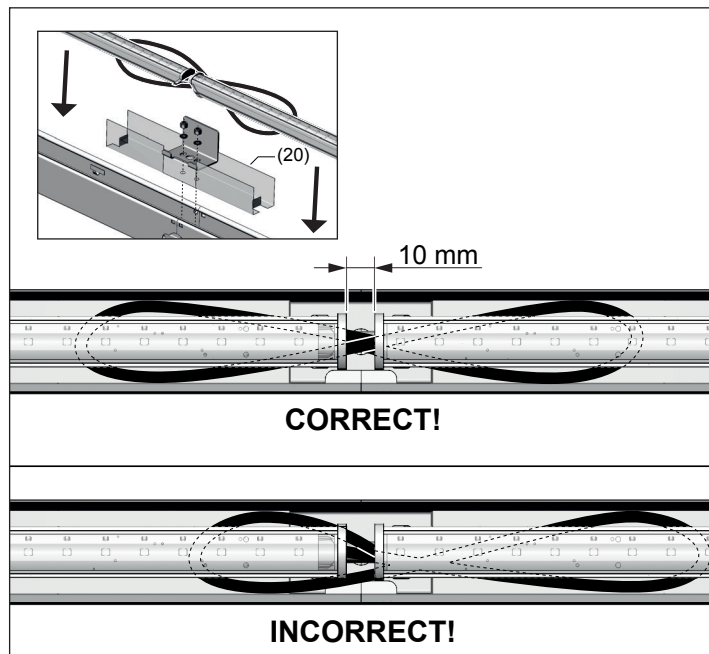

Figure 7
- Dependent on the chosen cable inlet use rubber grommet (10) or (11) when routing the connection cable out of the mounting rail.
- Press LED lamps into the retaining clips inside of the supporting rail, until they lock. In doing so observe a distance of 10 mm between two LED lamps (figure 7). LED lamps should not be subsequently shifted.
- Make sure that the cable routing is correct! Link cables must be routed in a loop below the middle of both LED lamps (figure 7). Place one of the delivered insulation foils (20) below each cable loop!